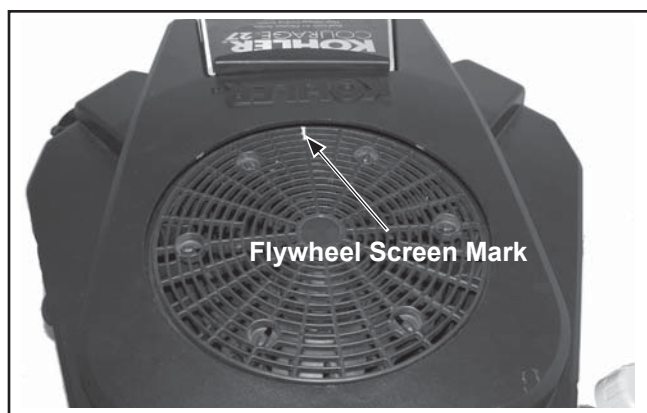

Figure 7-11. Check For Timing Advance.
1. Make a line near the edge of the flywheel screen with a marking pen or narrow tape. See Figure 7-11.